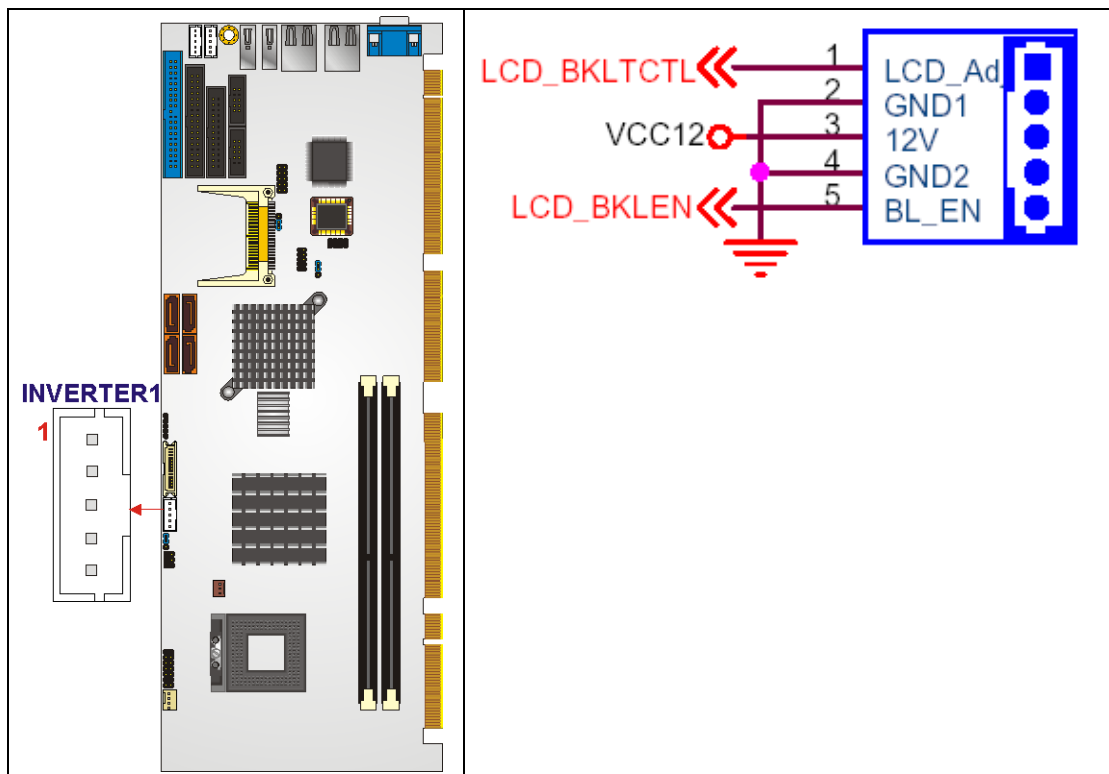

Figure 4-4: Panel Backlight Connector Pinout Locations
- CN Location:** See Figure 4-4